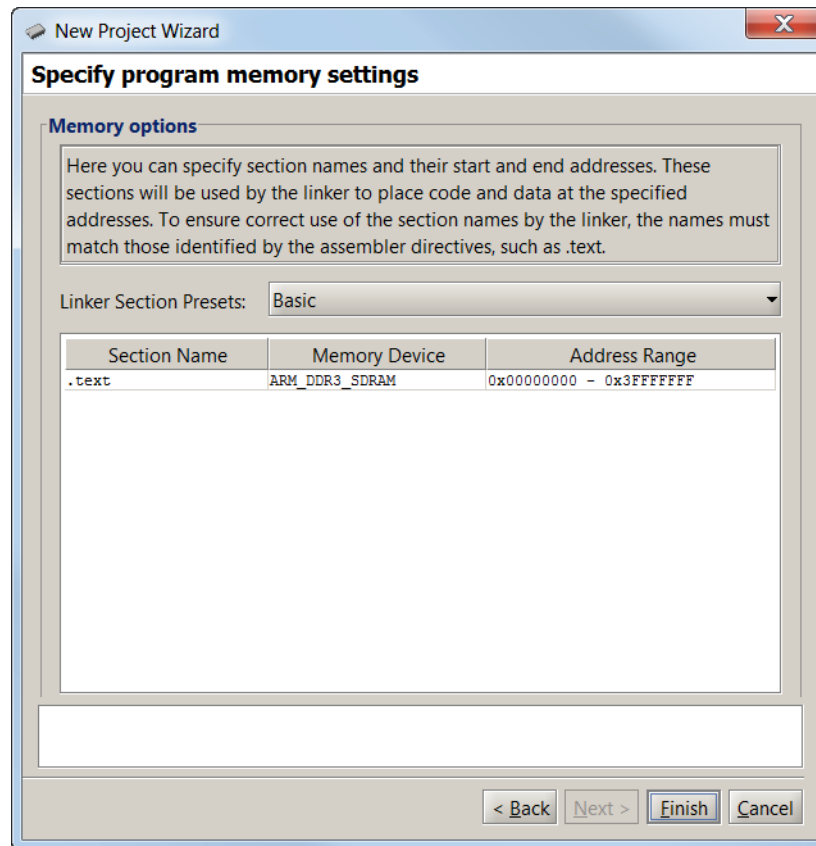

Figure 10. Specifying memory settings.
5. Click **Next** to reach the final screen for creating the new project, shown in Figure 10. This screen is used to